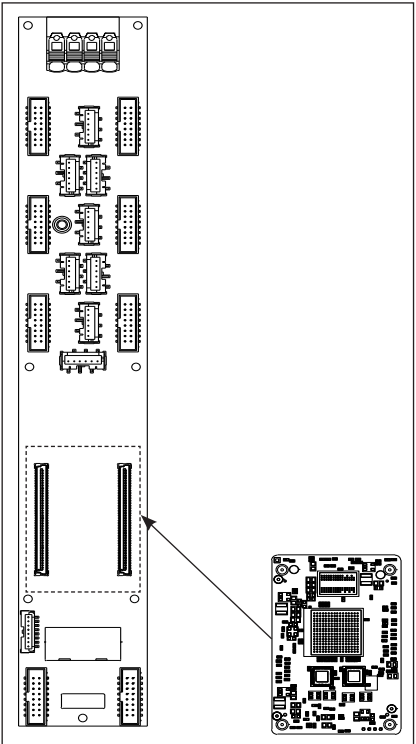

Figure 12: Install Receiver Card
- 2. Press the receiver card snugly into place in the pin slots on the hub board. Ensure the receiver card is oriented with the larger chip at the top and the two smaller chips at the bottom. Refer to **Figure 12**.